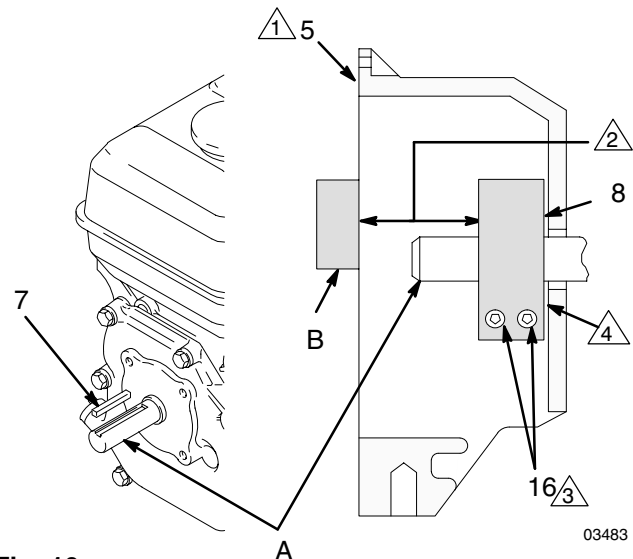

Fig. 10
1. Fig. 10. Loosen two screws (16) on clamp (8),
2. Push screwdriver into slot in clamp (8) and remove clamp.
1. Fig. 10. Install engine shaft key (7).
2. Tap clamp (8) on engine shaft (A) with plastic mallet.
3. Press clamp (8) onto engine shaft (A). Maintain dimension shown note 2 in Fig. 10. Chamfer must face engine.